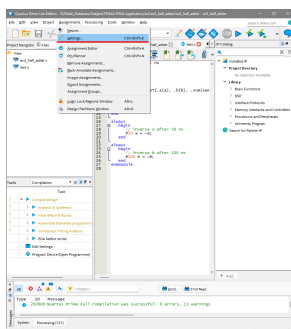

Figure 16: Click "Settings"
7. Click "Settings" in "Assignments" window. (Figure 16)